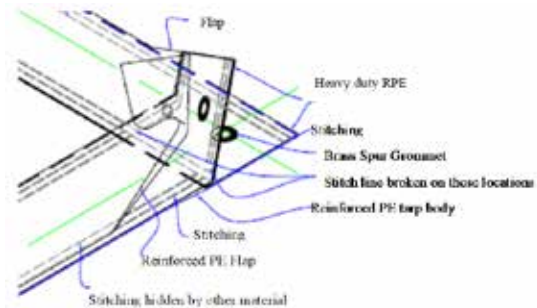

Figure 4. Female Bottom Edge, Corner 3 detail
- Open female flap (Fig. 4 & 9) and insert male edge. Line up the grommets.